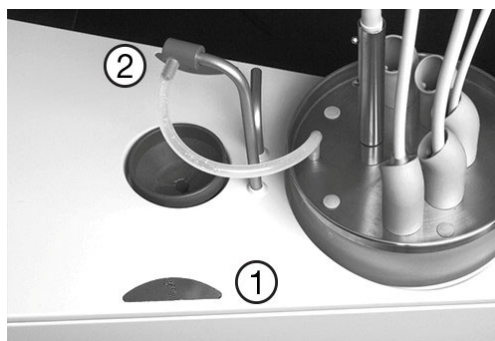

Figure 80 – Activation of XO Water Disinfection (1) cuspidor (2) cup filler
3. Attach the cup filler outlet as shown in Figure 80
4. Activate the button marked (1) in Figure 80 and the water tank inside the unit is emptied
2. Attach the cup filler outlet as shown in Figure 80
3. Activate the button (2) in Figure 80 and the instrument water lines are flushed